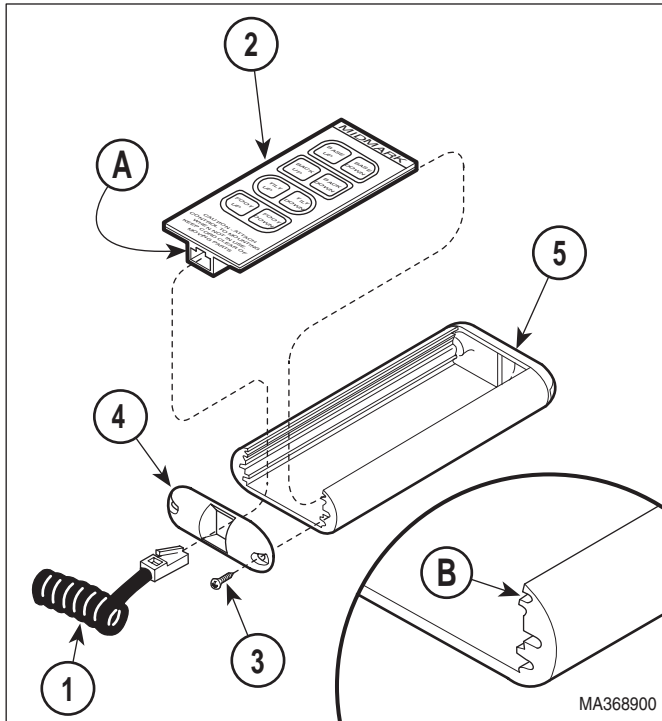

Figure 4-32. Hand Control Switch Panel Removal / Installation
- (1) Disconnect coil cord (1, Figure 4-32) from connector (A) of hand control panel (2).
- (2) Remove two screws (3) and bottom end cap (4) from hand control tube (5).
- (3) Remove hand control panel (2) from hand control tube (5).